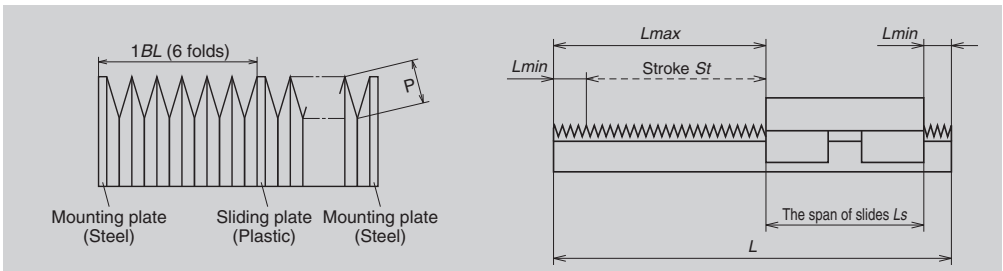

Fig. 6.10
- A bellows forms one block (BL) with six folds as shown in Fig. 6.10. Stroke is determined by multiplying by an integer of this BL.